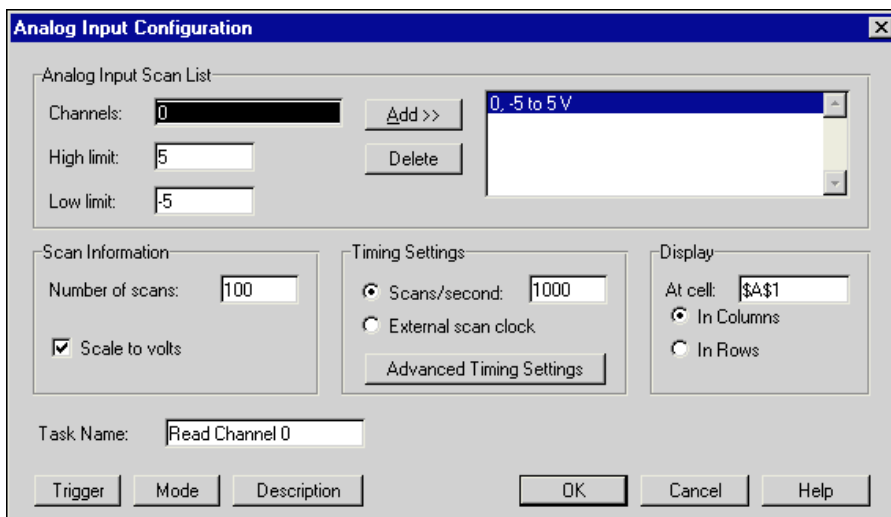

Figure 2-2. Analog Input Configuration
4. Click on the **AI** button to display the Analog Input Configuration dialog box, as shown in Figure 2-2.